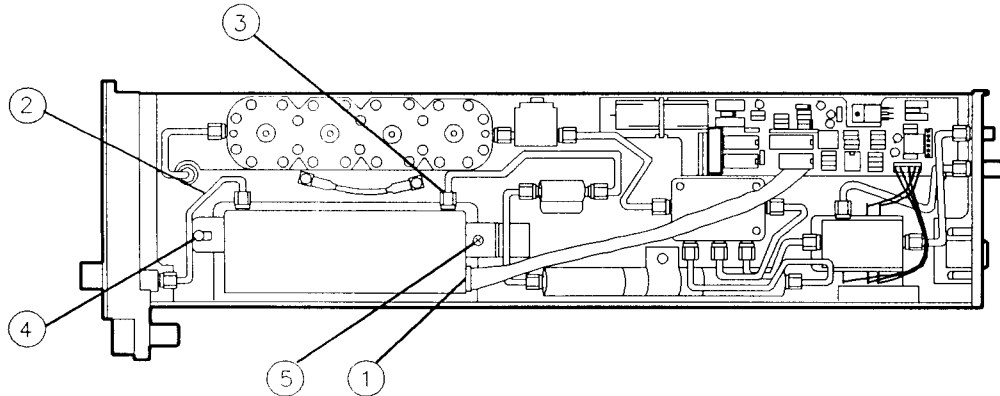

Figure 6-8. A8 Input Attenuator Replacement
3. Disconnect the A8W1 ribbon cable from the A8 Attenuator (1). See Figure 6-8.
4. Remove the W1 semirigid cable from the A7 Front Panel J1 and from the A8 Input Attenuator INPUT (2).
5. Disconnect the W4 semirigid cable from the A8 Input Attenuator OUTPUT (3).
6. Remove the front (4) and rear (5) attenuator mounting bracket screws. Lift the A8 Input Attenuator out of the module.